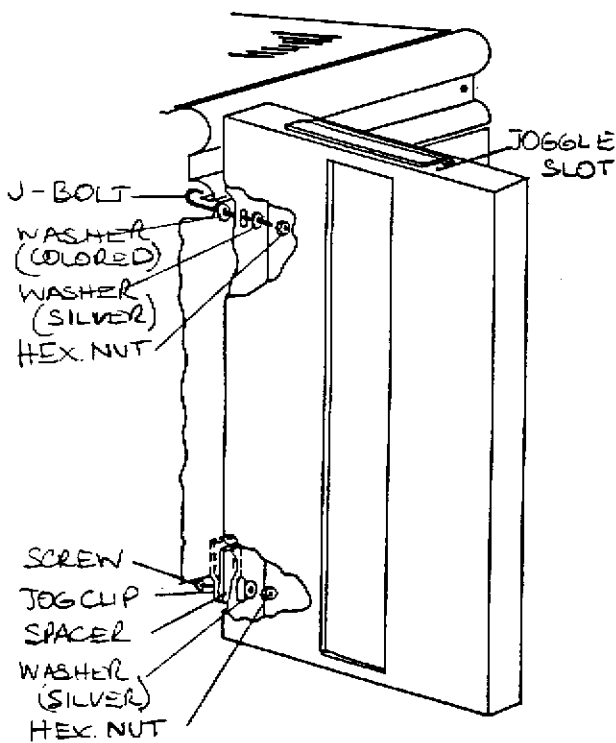

FIGURE 14.
11. Place the top panel (A) across the top of the insert and hold it just forward of the side panels. Slide one side panel up and push the lower flange of the top back into the joggle slot. Take care in doing this that you do not chip the enamel. Line up the sides of the top and side panels and tighten the J-bolt nut to hold the panel at this height. (Figure 14)